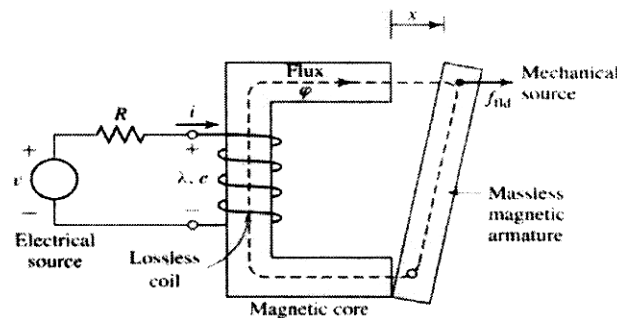

Fig.1
b) In an electromagnetic relay shown in fig. 1, the exciting winding has 2000 turns. The cross-sectional area of the magnetic core is  $10 \text{ cm} \times 10 \text{ cm}$ . The reluctance of the magnetic circuit may be assumed to be negligible. Also neglect fringing effects.